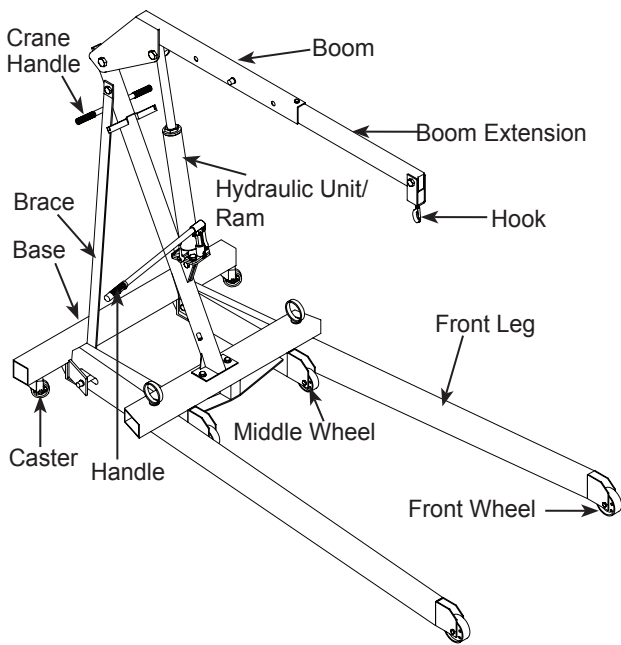

Figure 1 - Model 44010 Nomenclature
1. Make sure all parts are present (*ref. Fig. 1 & 3*). If any parts are missing or damage, contact customer service.
2. Attach caster (2) to base (1) using M8x16 bolts and washers (4 & 3), then attach 3-1/2" wheels (5) using bolts, washers & nuts (9, 10 & 11).
3. Install the 5" wheels (13) to front legs (12) using bolts, washers & nuts (9, 10 & 11).
4. Attach two front legs (12) to base (1) using pin, "E" clip, snap pin & lock bolt (14, 15, 16 & 17).
5. Attach upright (18) to base (1) using two bolts & nuts (20 & 10). Upright must lean towards the rear of the base as shown. Leave nuts finger tight.
6. Attach two braces (21) to upright (18) with bolt, washer & nut (22, 10 & 11). Leave nut finger tight.
7. Attach the bottom of braces (21) to inside of base (1) using two each bolts & nuts (23 & 10).
8. Tighten all bolts from upright (18) to base (1), braces (21) to upright (18), and braces (21) to base (1).
9. Attach hydraulic unit (32) to the mounting bracket (28) using bolts, washers & nuts (33, 34 & 35). *Handle socket of hydraulic unit must face the front of the base as shown*. Then position the assembly between mounting ears on upright (18), and attach using bolt, washer & nut (29, 30 & 31). Tighten nut. Lean hydraulic unit assembly back against upright.
10. Connect boom (24) to upright using bolt, washer & nut (25, 26 & 27).
11. Hold boom (24) and pivot hydraulic unit (32) out away from upright. Attach the ram of hydraulic unit (39) to boom with bolt, washer & nut (37, 30 & 31). Tighten nut.